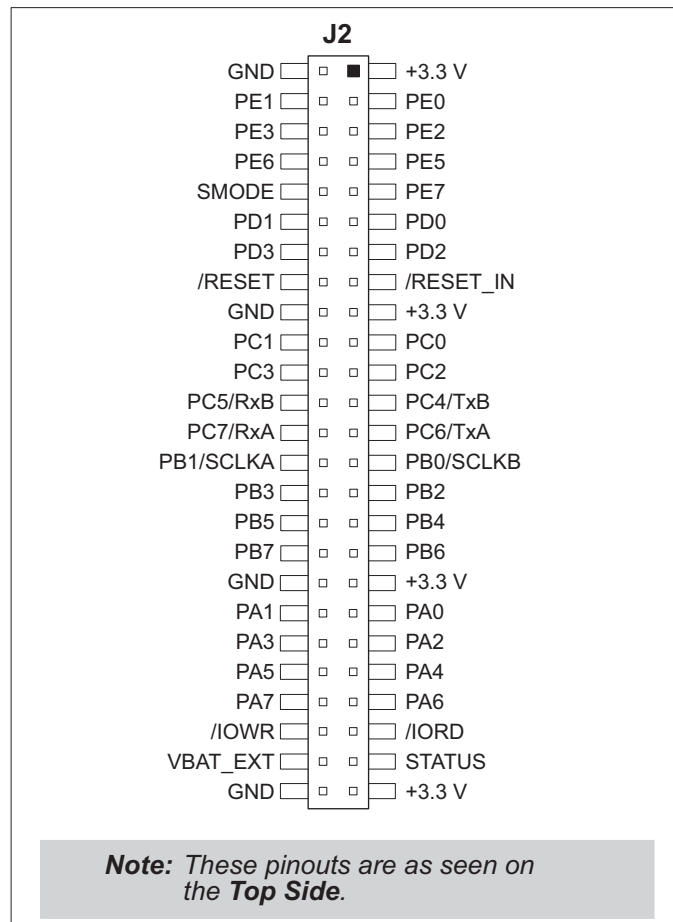

Figure D-4. MiniCore Boards Pinout
- **Module Extension Headers**—The complete pin set of the RCM5600W module is duplicated below header J2. Developers can solder wires directly into the appropriate holes, or, for more flexible development, a 2 × 25 header strip with a 0.1" pitch can be soldered into place. See Figure D-4 for the header pinouts.
The Digital I/O accessory board provides the user with RCM5600W connection points brought out conveniently to labeled points below header J2. The pinouts for header socket J2 are shown in Figure D-4.